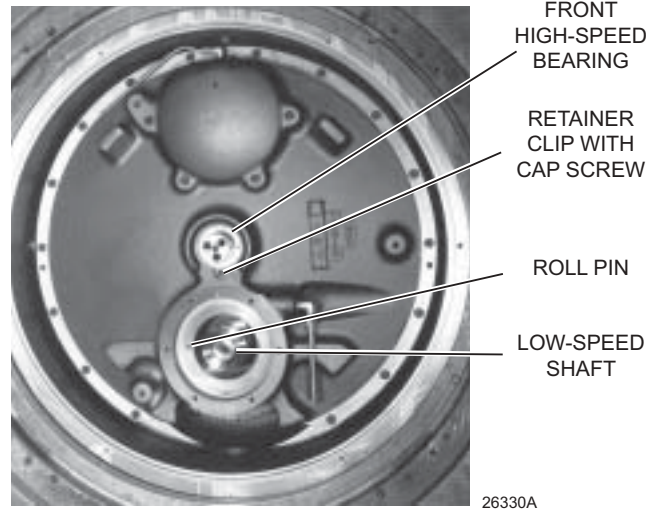
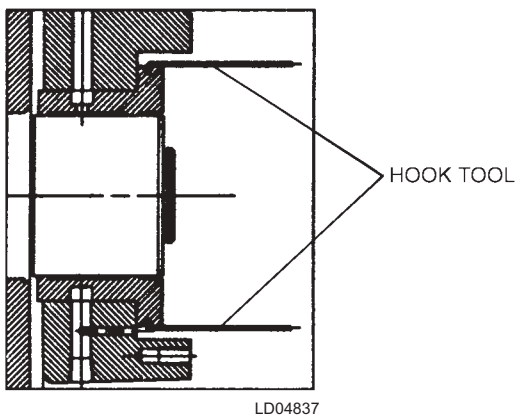

FIG. 34 – LOW-SPEED BEARING REMOVED WITH HIGH-SPEED BEARING IN PLACE
FIG. 33 – FRONT LOW-SPEED BEARING REMOVAL
REMOVING FRONT LOW-SPEED BEARINGS (SEE FIG. 33)
4. To remove the low-speed bearing, use (2) hook tools (shown in FIG. 33). Carefully pull the bearing out of the bearing housing. Note position of roll pin (see FIG. 34).
1. Remove the cap screw and retainer clip (see FIG. 34).